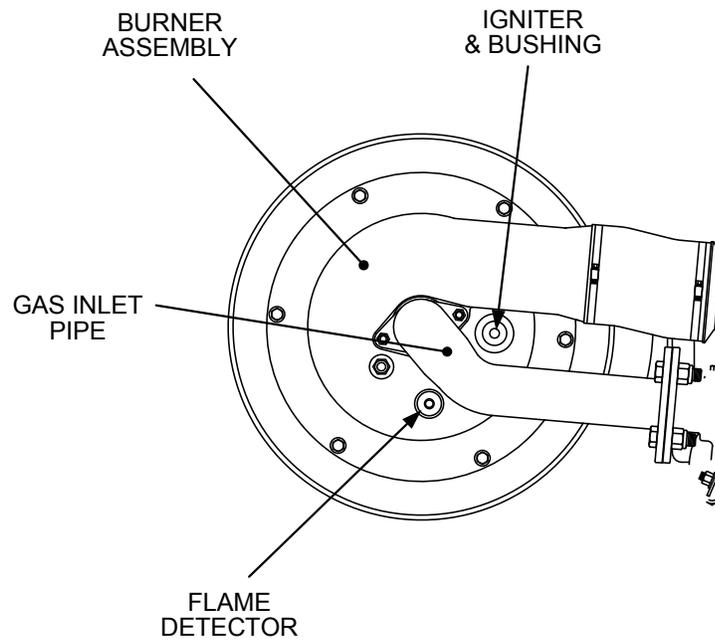

Figure 9. Burner Assembly Igniter & Flame Detector Locations
1. With the igniter cable already disconnected from the igniter, pull out the igniter bushing from the burner shell (Figure 9).
1. With the flame detector lead wire already disconnected, unscrew the flame detector and remove it. (see Figures 9 and 10)